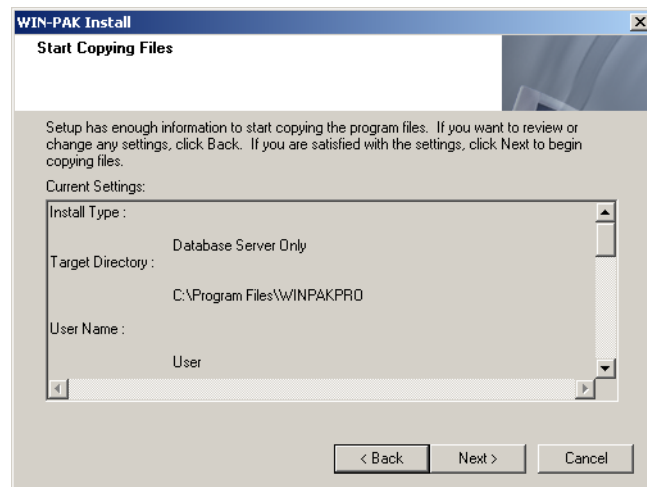

Figure 2-20 *Start Copying Files*
8. Click **Yes** to place the icons on your desktop. The summary of the selected information displays as shown in *Figure 2-20*.